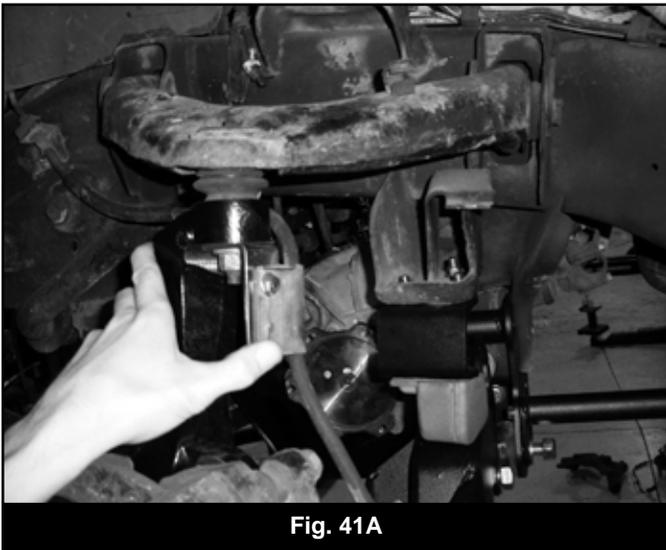

Fig. 41A
60. Locate the new steering knuckles and identify the driver's and passenger's side. Install the appropriate knuckle on the lower control arm and fasten with the original lower ball joint nut. Swing the knuckle up and attach to the upper ball joint with the original nut. *Narrow Track Knuckles: Install the provided "L" shaped brake line bracket (02330) to knuckle with the upper ball joint nut. Position the bracket so the long tab is toward the rear of the vehicle (Fig 41A).* Torque the upper ball joint nut to 37 ft-lbs and the lower ball joint nut to 74 ft-lbs (Fig 36).